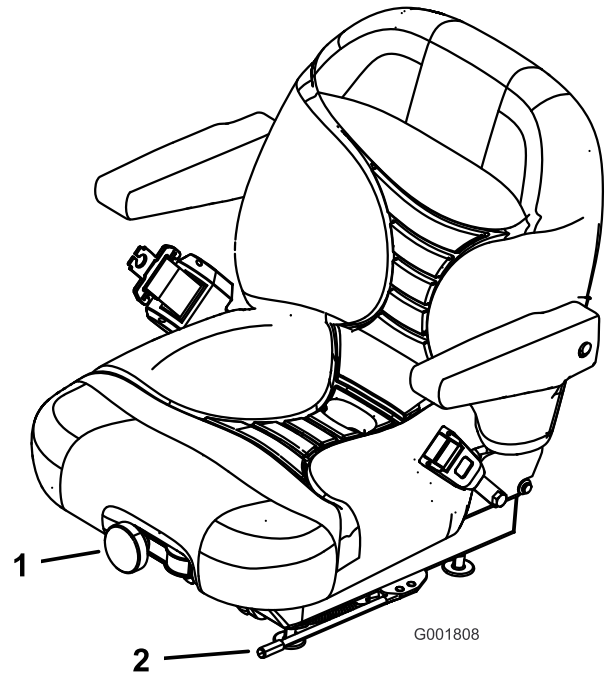

Figure 29
1. To adjust, move the lever sideways to unlock seat (Figure 29).
To adjust it, turn the knob in front either direction to provide the best comfort (Figure 29).